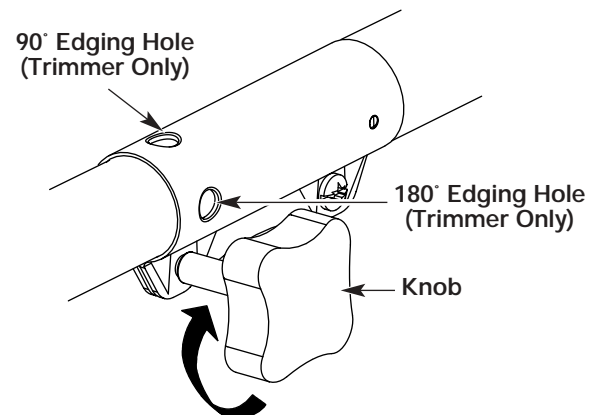

Fig. 11
3. Turn the knob clockwise to tighten (Fig. 11).
For edging (when using the line head cutting attachment with EZ-Link™ models), lock the release button of the cutting attachment into the **90° edging hole** or the **180° edging hole** (Fig. 11).